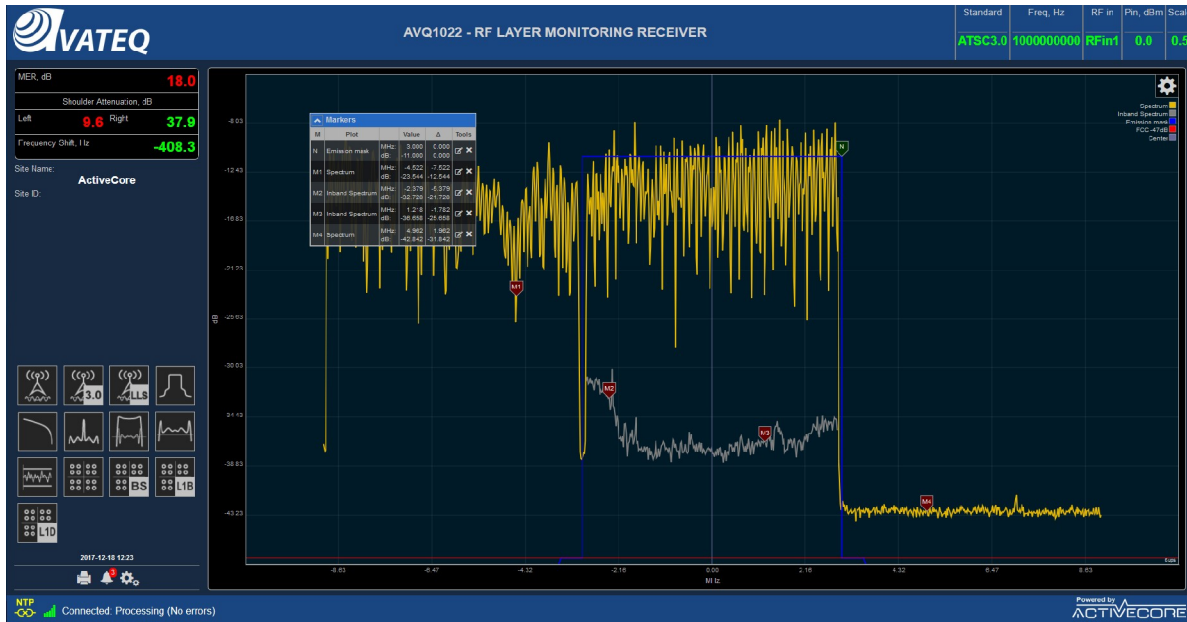

Figure 22. Markers
- “Markers” tool allows conveniently setting several markers on the plot, see Figure 22. Marker position can be individually adjusted using “Edit” icon in the Marker table.